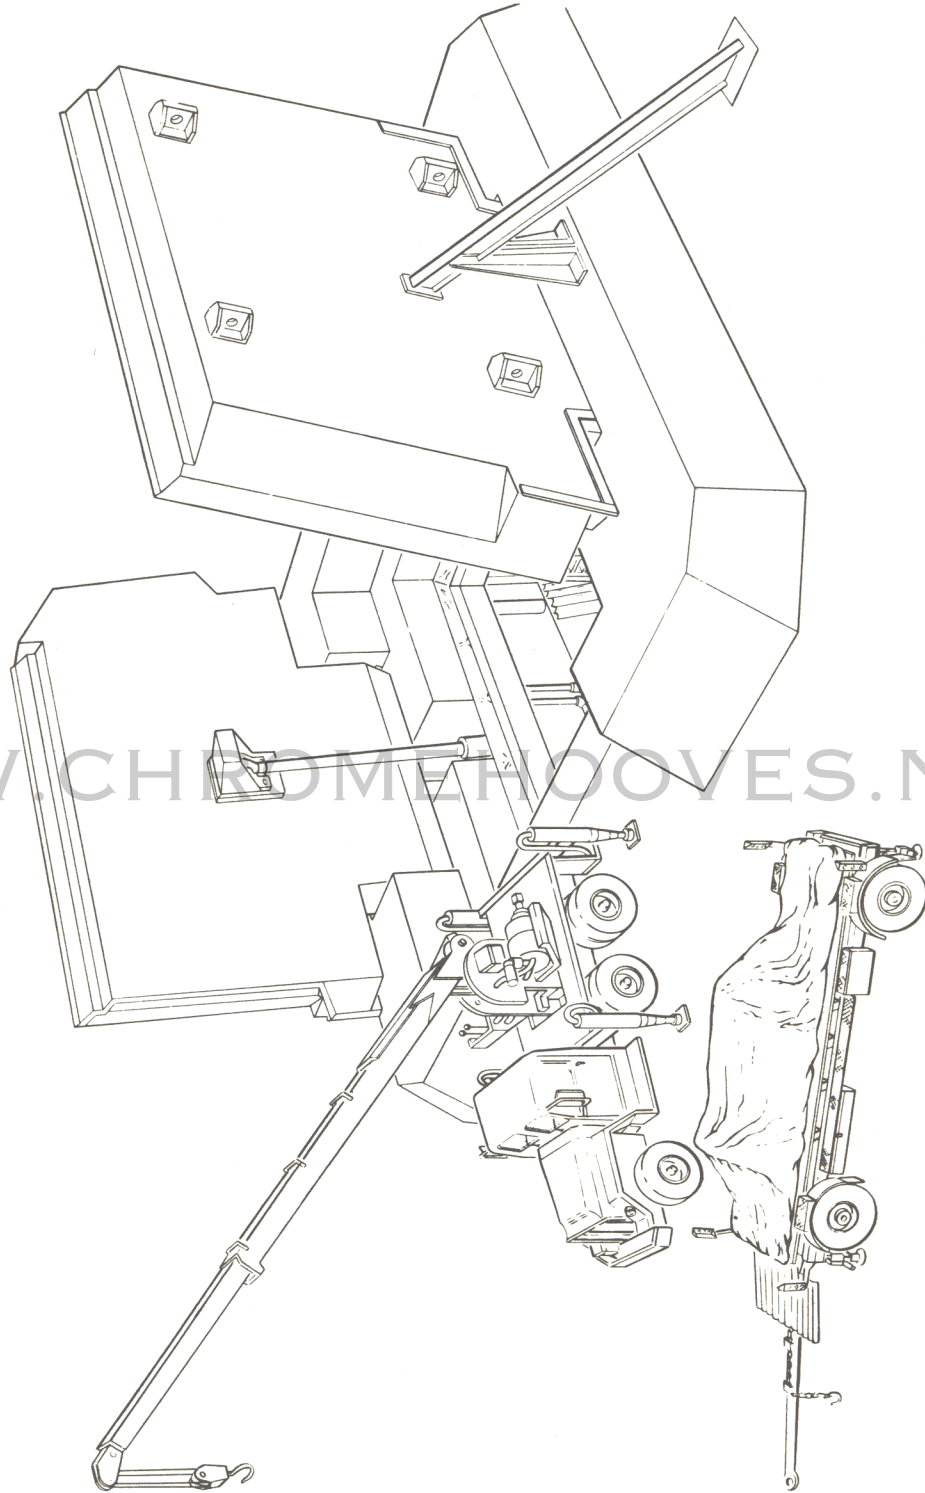

Figure 4-3. Position of MC-1 Crane and R/V Trailer
- a. Position aft end of MC-1 crane near silo mouth (figure 4-3) over locating marks on silo pad.